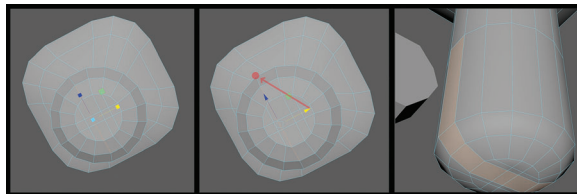

FIGURE 1.28 Building out the bottom of the arm using a few new tricks in each tool's options.
on the left side of the UI, look for the column of buttons we call the Toolbox. Try pressing Q, W, E, and R and you can see how to switch between these tools with the keyboard shortcuts. Double-click on the button that is highlighted when you press R to pull out the Scale tool settings. Check the Prevent Negative Scale option. Scale the lines on the X axis until they are flattened (they will not overshoot). Switch to Move tool and hold down the V button to turn on Vertex Snapping. While you are holding down the V button, drag the arrow of the move tool along the X axis (red-cone gizmo) and move your cursor to the point lying on the outer rim of the handle to snap the flattened line to that point only on the X axis. Do the same thing on the other side. Add another loop around the length of the handle to mark out the upper edge of the opening socket. What we are trying to achieve here is to mark the opening edge of the socket. The opening of the socket is highlighted in the last figure of Figure 1.28.
Step 26: Opening the socket. Delete the faces highlighted in the last figure of Figure 1.28. Grab the bottom edges and extrude them up. Scale them on the Y axis to flatten them. Switch to the Move tool and hold down V while dragging the edges up to snap the edges to the upper corner of the opening. Do not change the selection and hold down Shift+right mouse button and select the Bridge tool from the marking menu. This will bridge the two loops with faces. This command requires an equal number of polygons on the two loops (Figure 1.29).